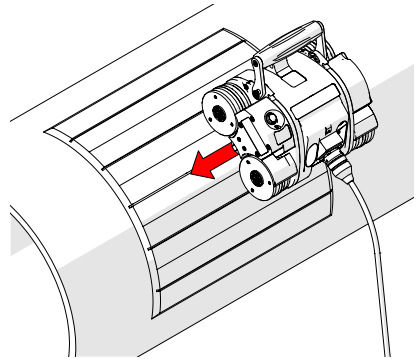

Fig. 81 - Place installation/removal mat
4. Place and hold the crawler on the installation/removal mat (Fig. 81).